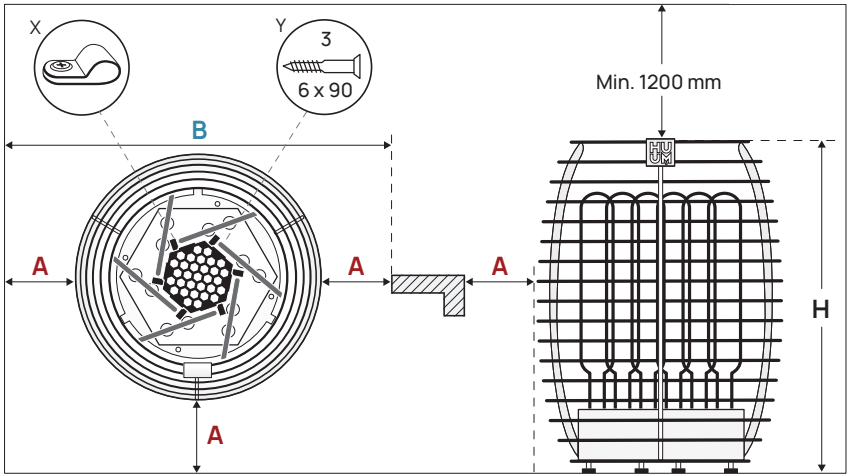

Figure 1 Positioning of the heater
- Are minimal safety distances ensured at the installation site of the heater? Minimal safety distances between the sauna room's ceiling and walls in view of installing the electric heater have been provided in **Table 1** and **Figure 1**.